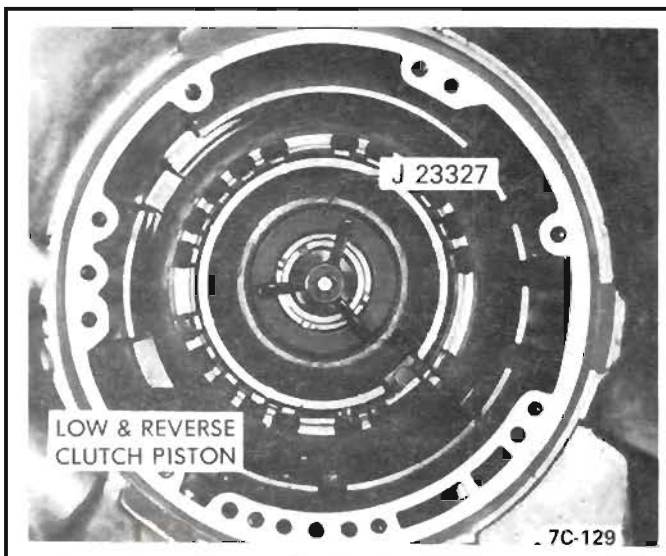

Figure 41 Low and Reverse Piston Snap Ring Removal
1. Using Tool J-23327 compress low and reverse clutch piston spring retainer and remove piston retaining ring and spring retainer with springs. *See Figure 41.*